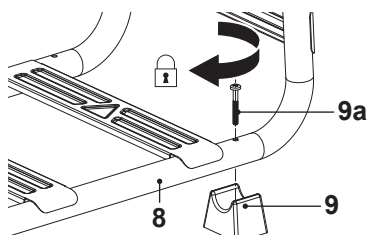

Fig. 1
1. Align the foot (9) with the hole on the frame (8)(Fig. 1).